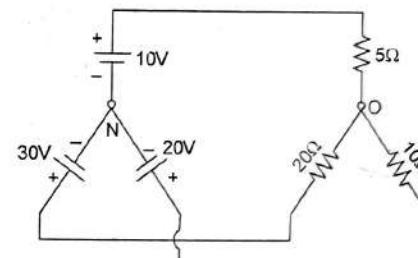

Fig. 5
Q.4 (a) Using Norton's theorem, find current which would flow in a 25Ω resistor connected between points N and O in fig. 5.
– Equivalent resistance of network when viewed from terminals N and O in fig.5.